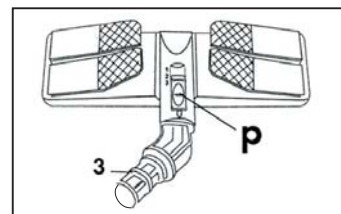

Fig. 14
- introduce the elbow connection (3) into the triangular brush (4) or multipurpose brush (2) as shown in Fig.14;